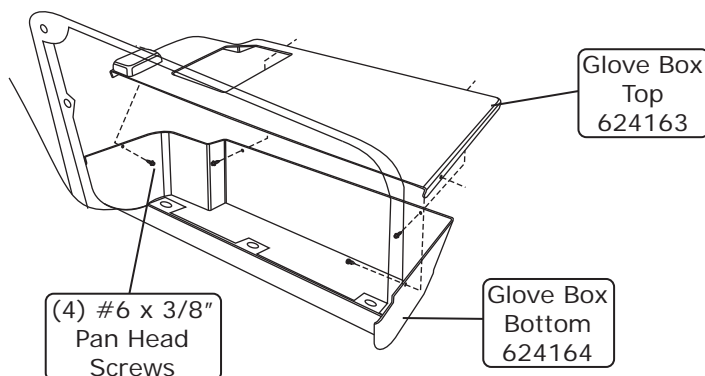

Figure 1
1. Insert the bottom half of the new glove box into the glove box opening, and position it into place (See Figure 1, below).
2. Attach the top half of the glove box to the bottom half using (4) #6 x 3/8" pan head screws (See Figure 1, below).